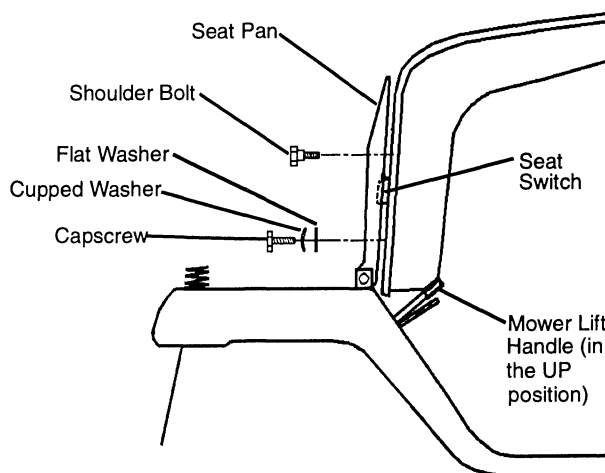

FIG. 4
- Install shoulder bolts through seat pan into top two holes in seat. (See Fig. 4) Secure tightly.